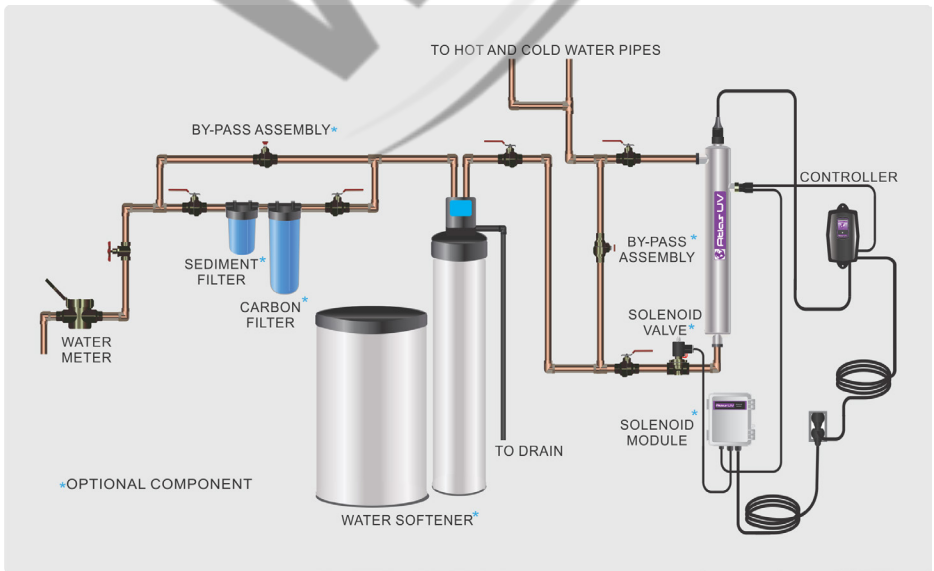

Figure 1. Recommended POE Installation Location
For Point of Entry (POE) systems, choose a location where the main cold water line is accessible. The system must be installed after other water treatment equipment (softener or filters), but before any branches (See Figure 1). For Point of Use (POU) systems, install the unit just before the faucet. Atlas recommends that a 5 micron filter be installed **before** the UV system for a final polishing step before the water is disinfected.
Step 10: Mount the controller to the wall so it is above or beside the reactor to ensure that no moisture can deposit on any of the connections (see Figure 1). Always mount the controller vertically. For monitored systems, insert the sensor connector into the IEP port located on the right side of the controller (Figure 6). For the sensor to be recognized by the controller, the controller power must be plugged in last. **Do not plug the controller power cord in before the last step.**